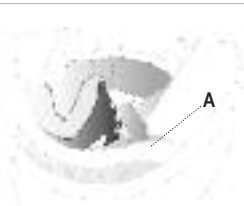

figure 5
**Inner central padding: INNER SHELL – Assembly and disassembly – see figure 5**